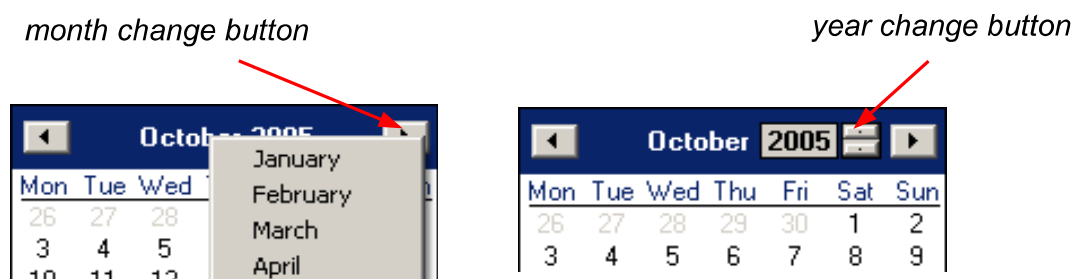

Fig. 3.5. Changing months and year
- 2) The date can be change by clicking onto any day in the calendar. Buttons at the top part of the calendar are used to change months (Fig. 3.5). After clicking on the current year located to the right from month's name an edition window and buttons for changing the year are displayed (Fig. 3.5).